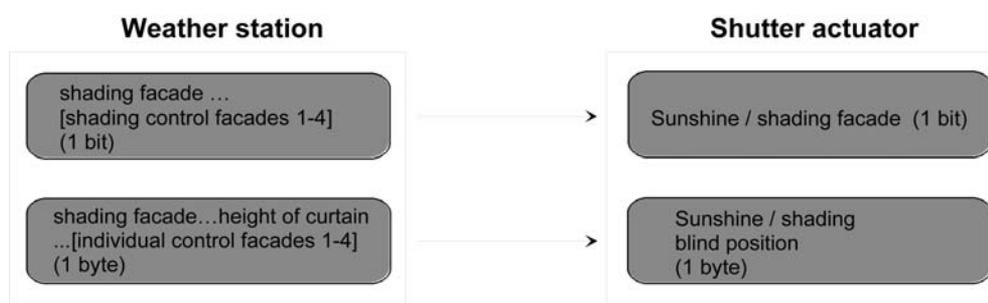

Figure 26: Programming of the communication objects for application example V
- fixed slat position setting.(Figure 26)